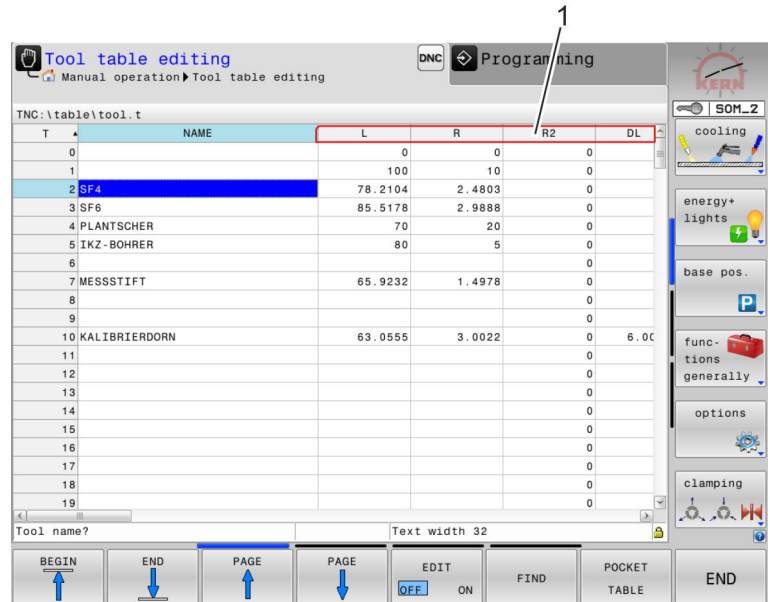

Fig. 55: Editing the tool position table
4. ➔ Use the cursor keys to move to the individual columns (Fig. 55/1) of the selected tool and adjust the tool data.